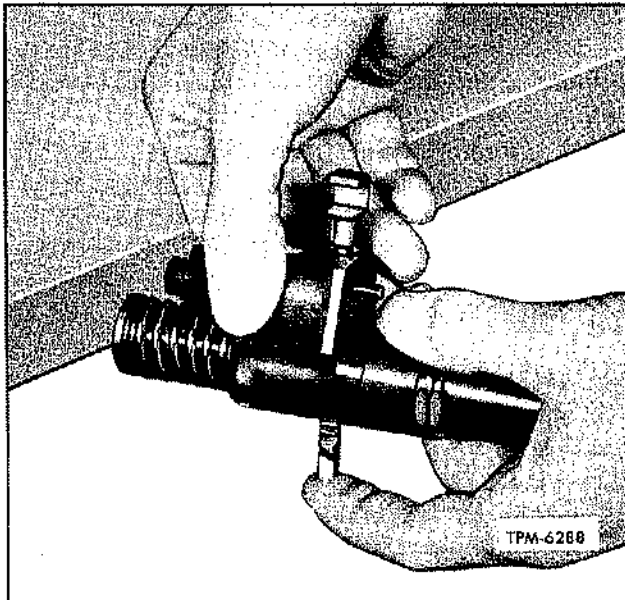

Figure 9—Checking Rack Freeness
1. Free movement of a plunger may be checked by placing the injector against a bench, as shown in figure 9, and depressing the follower to the bottom of its stroke while moving the rack back and forth. Failure to produce a free rack indicates that the internal parts of the injector are damaged or dirty. **CAUTION:** The injector must always be held in such a way as to prevent any fuel spray from penetrating the skin. Fuel oil which enters the blood stream may cause serious infection.